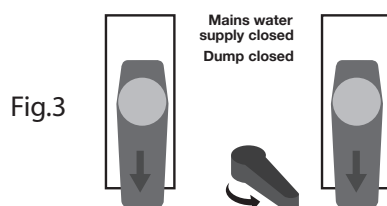

Fig.3
- 6) Set the valves as per Figure 3 and add the chemical into the tank.